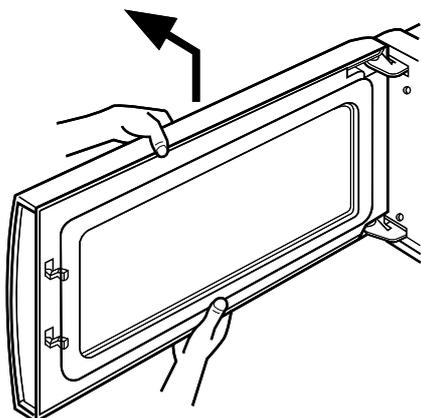

Figure 14
E. REMOVING DOOR (Figure 14)
- (1) Remove the vent grille by two screws securing it to the outcase loosening.
- (2) Lift up and push the door.